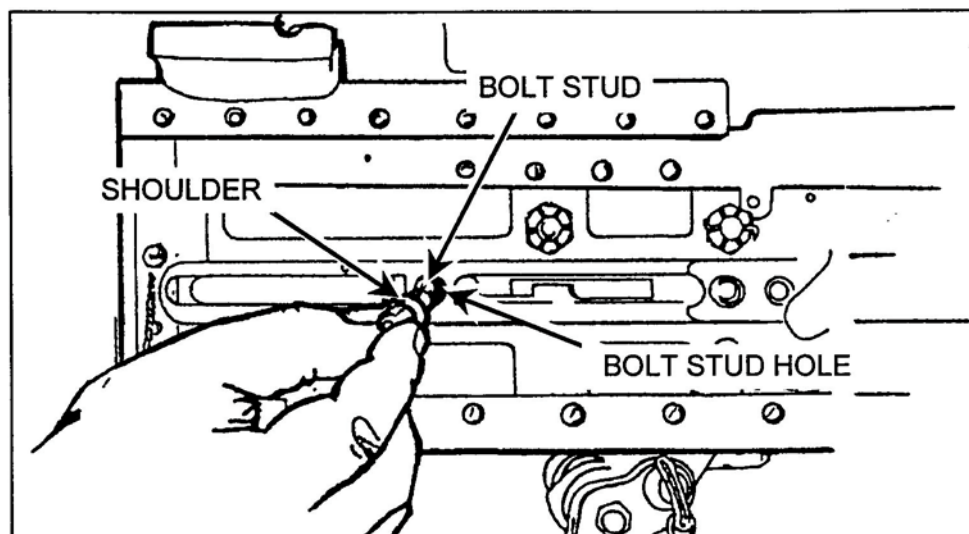

Figure 6. Removal of the bolt stud.
- (1) Retract the bolt assembly far enough to the rear to align the bolt stud with the bolt stud hole in the right side plate of the receiver (Figure 6).